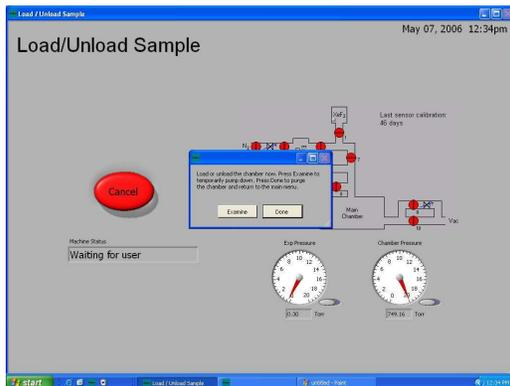

Figure 2.6
5. Open the chamber lid when “Waiting for user” is displayed in the “Machine Status” and put sample inside the chamber (Figure 2.6). No button needs to be clicked before you close the lid.